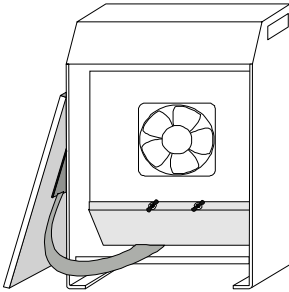

Fig. 2
- Remove the air conduction panel by unscrewing the wing nuts, see Fig. 2.